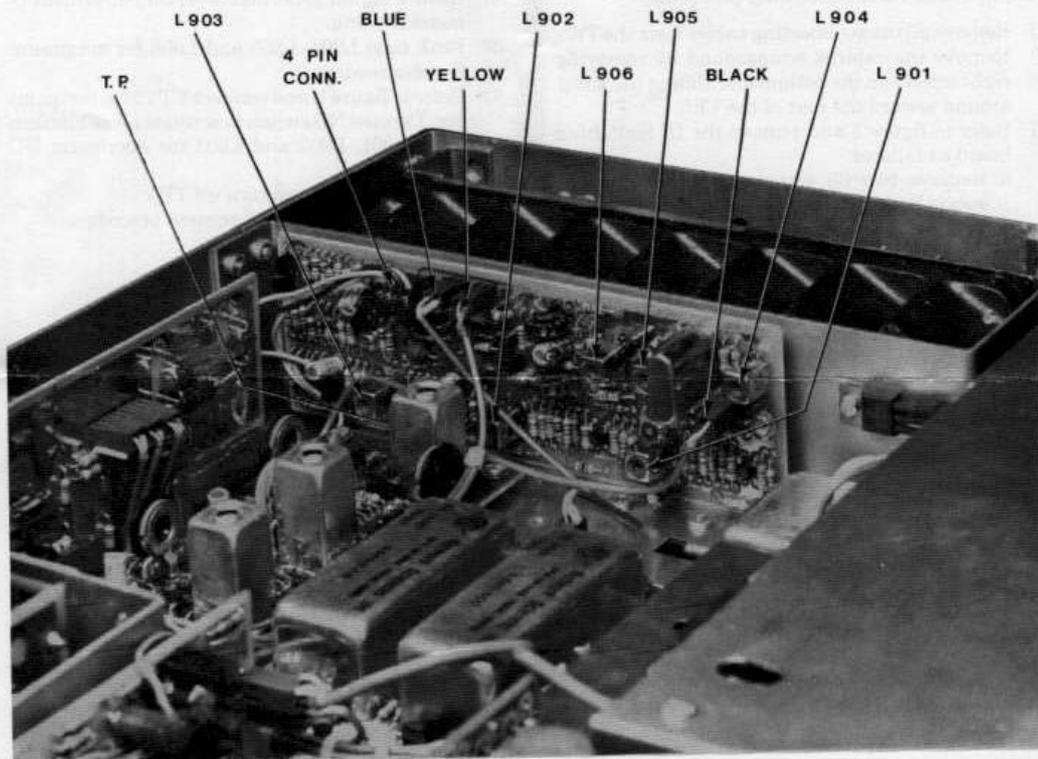

Figure 1 NB5 Location
- 3) Refer to figure 1 and remove the IF Switching board as follows:
- a) Remove two (2) screws and washers that secure board.
- 4) Refer to figure 1 and install the NB5 board as follows:
- a) Carefully slide board down into radio and secure with two (2) screws and washers.
- 4) Refer to figure 1, and connect VTVM to test point pin. Depress NB switch to activate noise blanker.